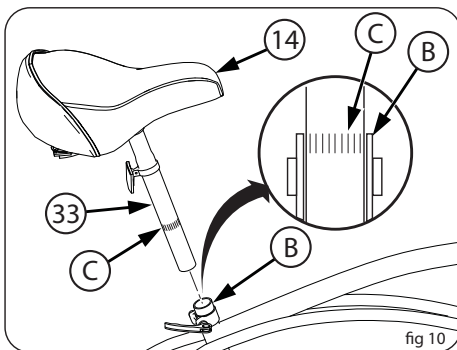

fig 10
- Point the Seat forward and put the Seat Post into the Seat Tube (B) (figs 10, 11).
**WARNING:** To prevent the seat coming loose and possible loss of control, the “MIN-IN” (minimum insertion) mark (C) on the seat post must be below the top of the Seat Tube.